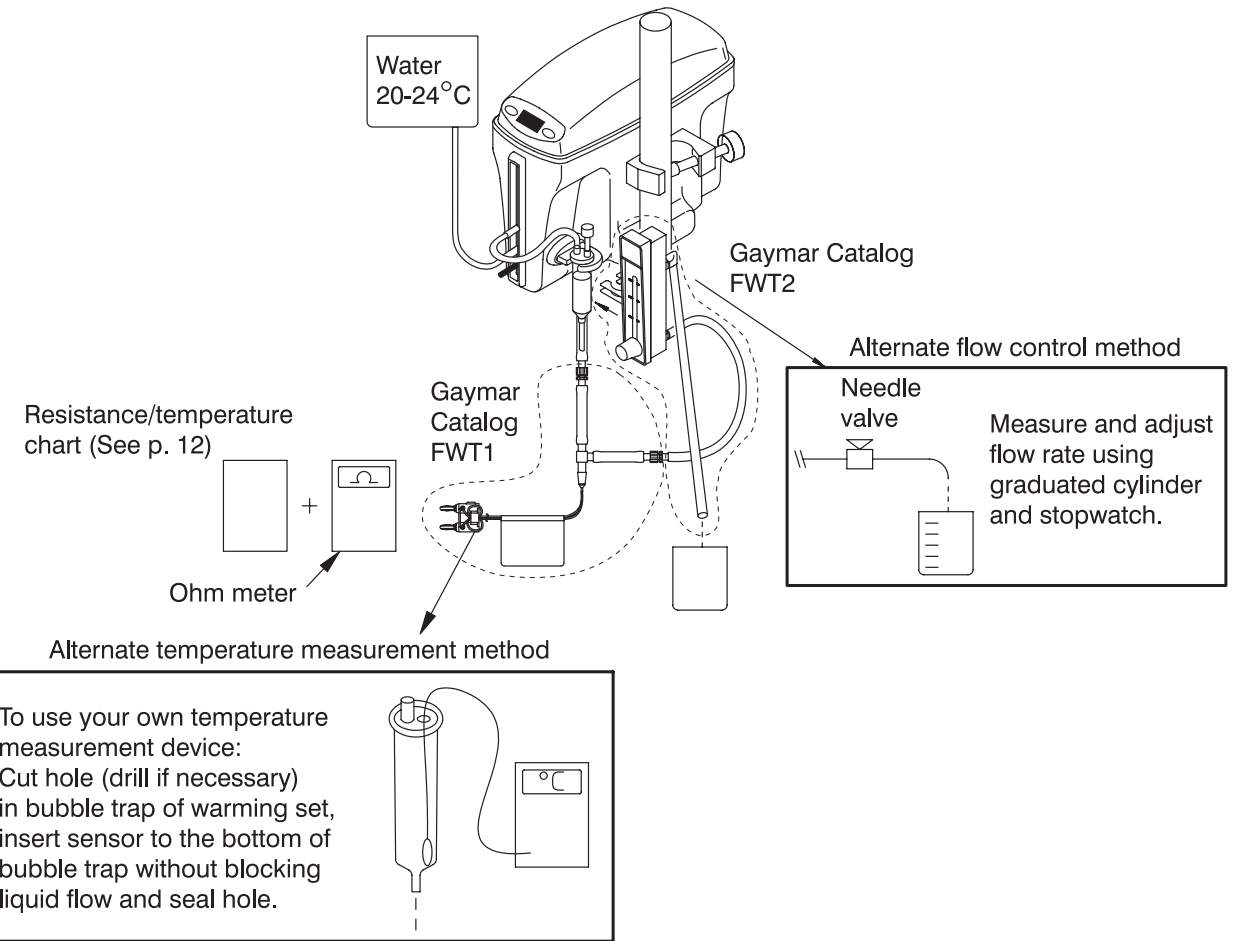

Figure 7—Test setup
2. Connect the test setup (see figure 7). Attach the Gaymar FWT1 temperature sensor to the output of the bubble trap.